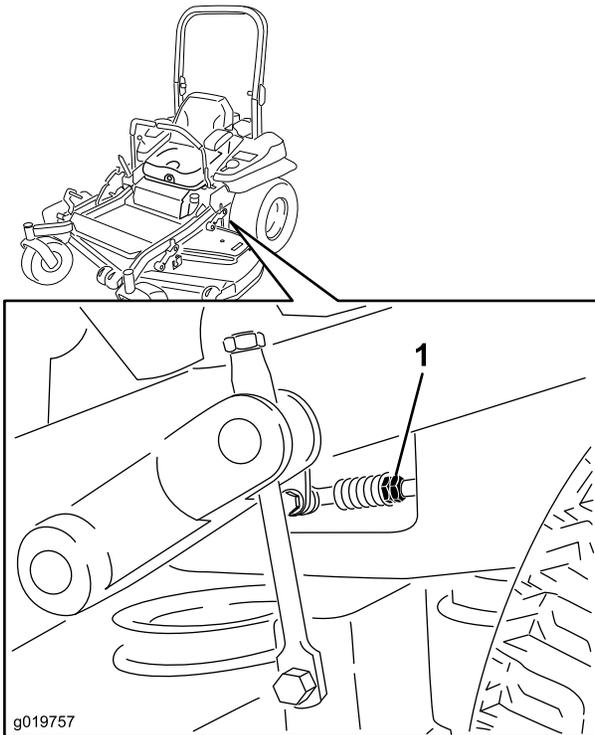

Figure 81
- Adjust the pump control rod lengths by rotating the double nuts on the rod in the appropriate direction until the wheels slightly creep in reverse (Figure 81).